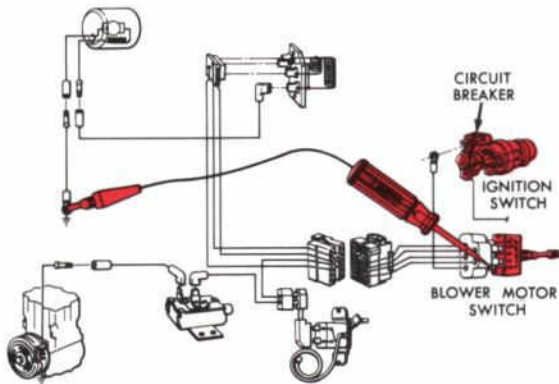

Figure 24—Testing Blower Switch
- The final test of the clutch circuit is to move the probe to the circuit breaker terminal (Fig. 24). The circuit breaker is usually mounted on the accessory terminal of the ignition switch. Test for power through the breaker and through the switch. If either isn't passing current, replace as required.